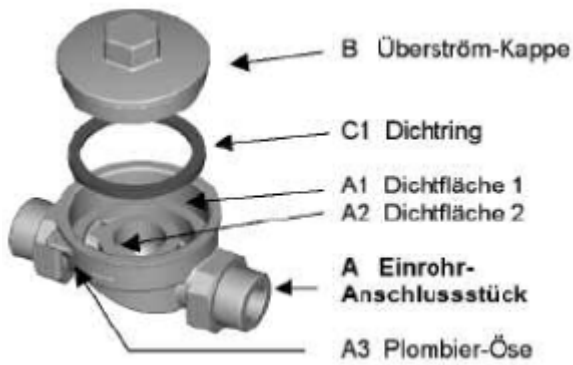

Fig. 5.3.1 Installation of F PolluCom® F/S C RI connector
4. Unscrew the overflow cap (B) from the single-pipe connector (A) (SW 22 mm), remove the seal (C1) from the EAS and clean both sealing surfaces (A1 and A2) of the EAS. (Fig. 5.3.1)